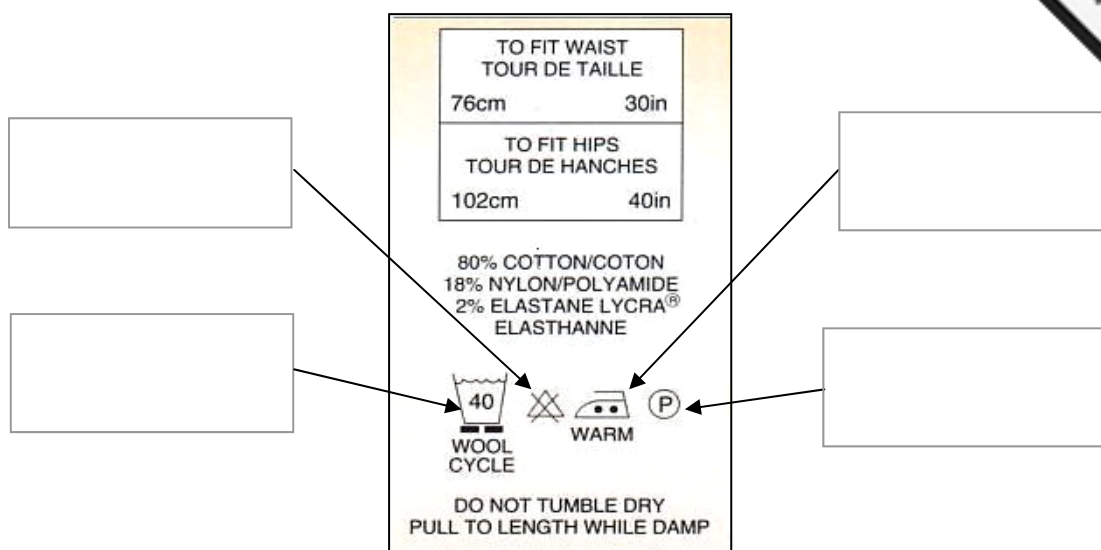

Figure 5
19. Figure 5 shows a typical label for a garment. What do the care symbols on this label represent?